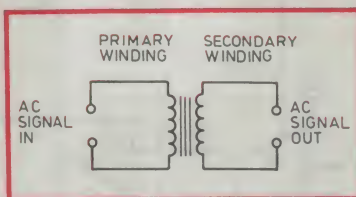

Fig.6: In case you've forgotten, the basic schematic for a standard AC transformer. Bear this in mind when trying to visualise the rotary head transformer.
Fig.6 shows a schematic of a standard transformer, with a primary and secondary winding. It is wound on a core made from laminated iron sheets. As you will know, when an alternating current (AC) signal is supplied to the primary winding a current is induced into the secondary winding, producing a signal across the secondary winding.